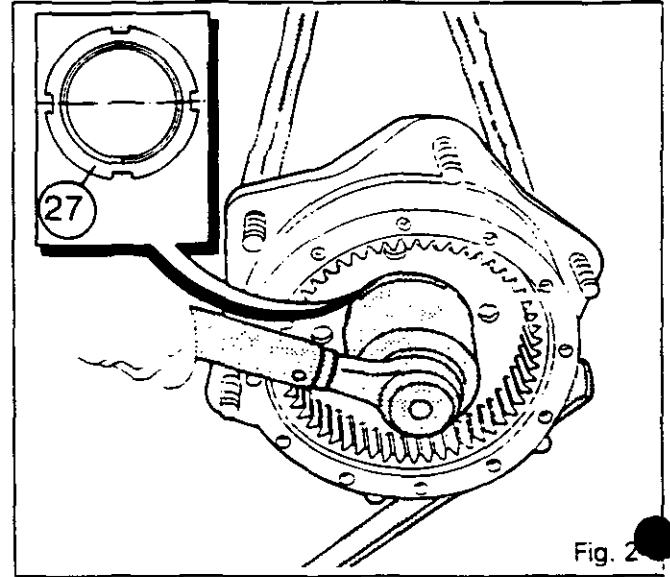

Fig. 2
2. The 4WD clutch being engaged, lift the two wheels to allow to the wheel hub (22) to turn freely. Position props.
5. Remove bolts (40).
6. Remove the planetary carrier with the thrust washer (30).
7. Remove the circlip (29) and the sun gear (28).
8. Unstake the nut (27) and unscrew it using socket 3376880 M1 (axle cat. 2.5 and 3.5) or 3376926 M1 (axle cat. 1 and 2) (Fig. 2). Extract the ring gear carrier (42) assembly. Remove the retaining rings (24) (26). Separate the ring gear (44) from the ring gear carrier.
35. Remove the circlip (29) and the sun gear (28).
36. In view of the weight of the hub, place in a sling before removing. Unstake and unscrew the nut (27) with socket (Fig. 2) :
37. Remove the wheel hub (22).
38. Remove the bearing cone (18) and if necessary extract the bearing cone (25) by the ring gear carrier (42) holes with a suitable extractor. Disassemble the bearing cups (19) (23).
39. Remove the seal (50). Extract the seal cage (46) (if necessary).